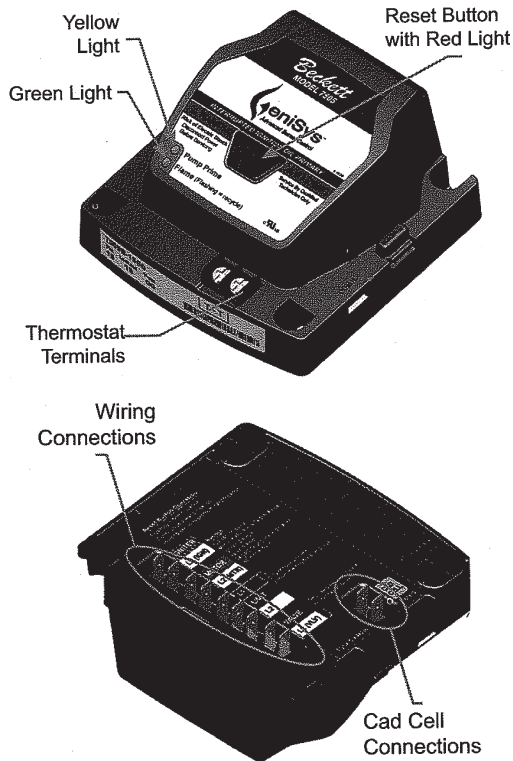

Figure 39: GeniSys 7505 Oil Primary Terminals, LED's and Reset Button
- a. **GeniSys 7505 Control Features**, see Figure 39.